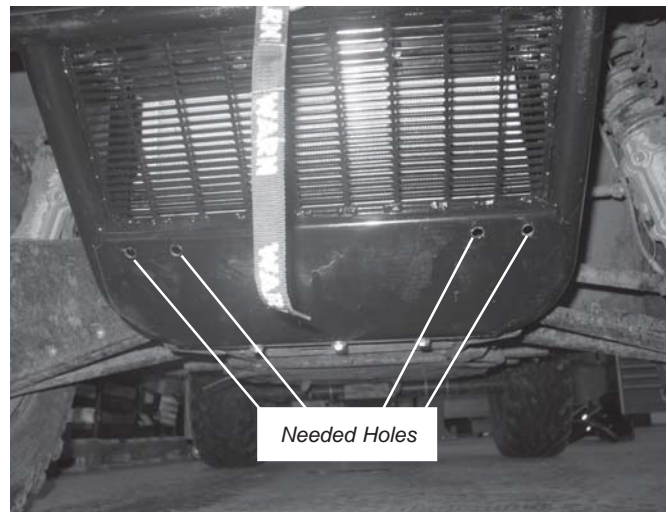

Figure 4 Holes to be drilled in bumper
4. If the plow mounting kit is being installed on an 02-04 Polaris Ranger, the bumper skid pan will need to have a hole pattern drilled in it. If the ranger is an 05 and newer skip to step 7. See Figure 4 and 5.